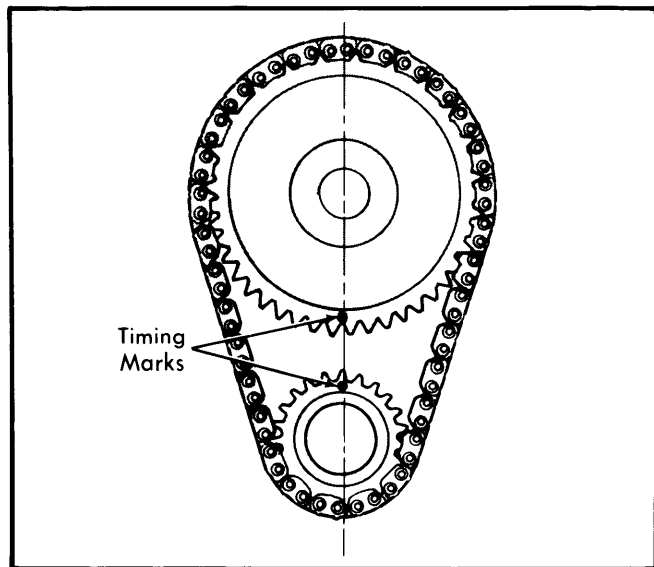

Fig. 5 Timing Chain Sprocket Alignment
2) Rotate crankshaft until timing mark on sprocket is aligned with camshaft sprocket timing mark (see Fig. 5). Remove crankshaft sprocket, camshaft sprocket and timing chain as an assembly.
Installation — 1) Assemble timing chain, crankshaft sprocket and camshaft sprocket with timing marks aligned (see Fig. 5). Install assembly to crankshaft and camshaft.